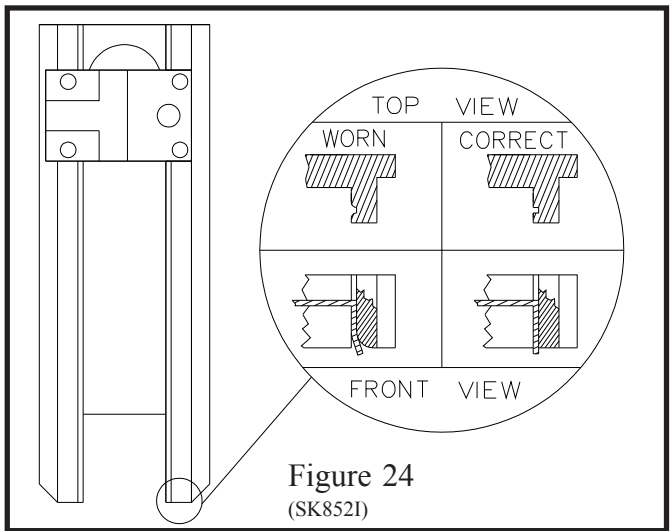
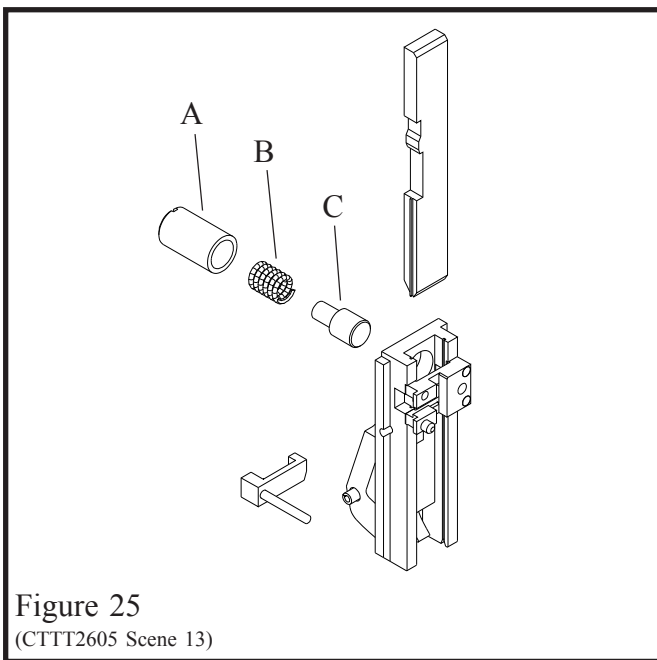

Figure 24
Figure 25
G. Bender Bar (Figure 24)
The bender bar bends the wire over the rotator and forms it into an unclined stitch. The legs of the stitch are guided towards the work material by the bender bar grooves. The legs of the unclined stitch should be perpendicular to the crown. When the bender bar grooves become worn, the legs tend to flare out (Figure 24) as they emerge from the grooves. This causes the legs to strike the clincher improperly. As a result, one or both legs will crumple and a broken driver bar or a broken bender bar can result. If the lower end of the bender bar groove becomes chipped, it will not support the wire and may cause the stitch to break at the crown. Replace the bender bar assembly (See Section H or Fig. 25). Other bender bar functions are related to wire cutting (Section L), and driving (Section I).
H. Bender Bar Friction Plug And/ Or Spring (Fig. 25)